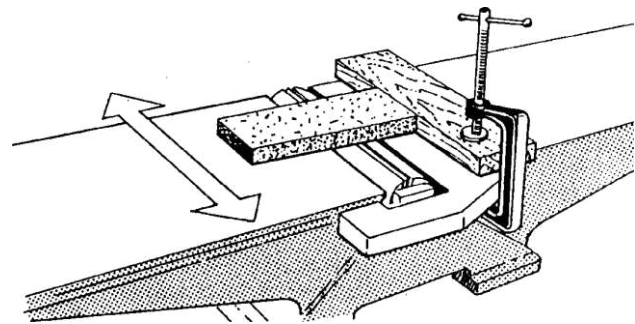

FIGURE 22
3. Clamp a block of wood across the infeed table as shown in Figure 22 in order to block the end of a fine India stone or oilstone during the jointing operation. This helps to prevent kickback of the stone.
5. Keeping hands well clear of the cutterhead, place the stone into position as shown in Figure 22, and slide the oilstone back and forth across both tables until the knives are lightly jointed.